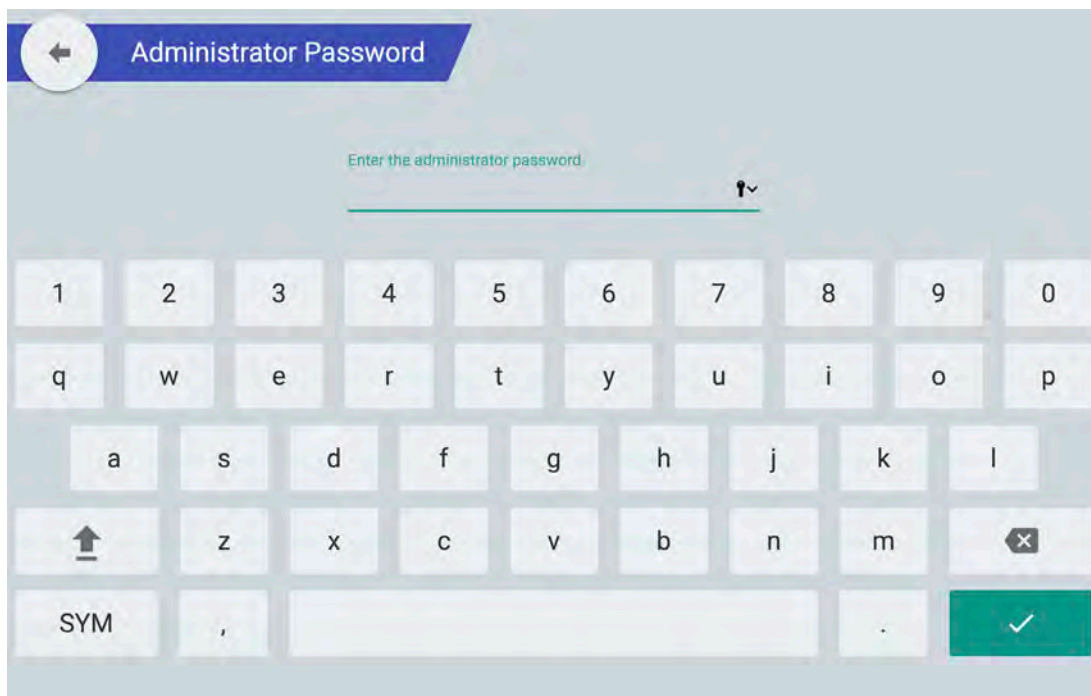

Figure 4.22
3. Once you see the Administration Menu, you will be prompted with a password screen (Figure 4.22).